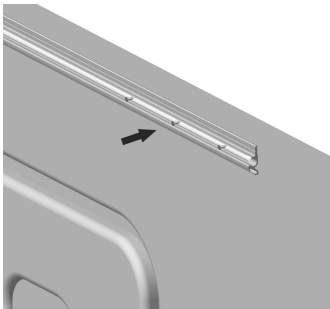
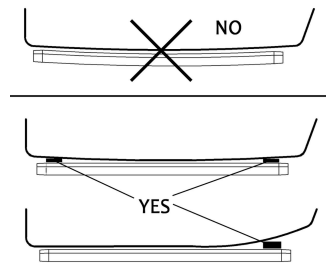

Figure C4
Figure C5
3.1 Take out the fabric rail and fix it on the outside of the vehicle body with screws B (Figure C4). The fabric rail should be installed horizontally, and if not, it should be leveled (the cushion block should be provided) (Figure C5). If the vehicle body is pre-install-ed with a fabric insertion slot, this step can be omitted and the fabric rail not need to be used.